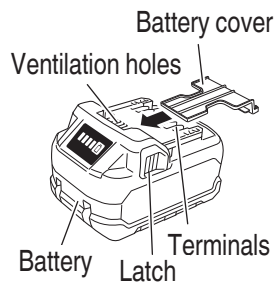

Fig. 3
- To prevent shorting from occurring, load the battery in the tool or insert securely the battery cover for storing until the ventilator is not seen, (See Fig. 3).